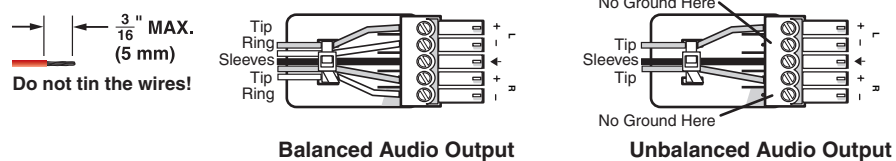

Figure 5. Analog Output Connector Wiring
- D Analog audio input** — Connect an analog audio device to this 5-pole 3.5 mm captive screw connector (see figure 5). This connector accepts 2-channel stereo balanced or unbalanced audio.